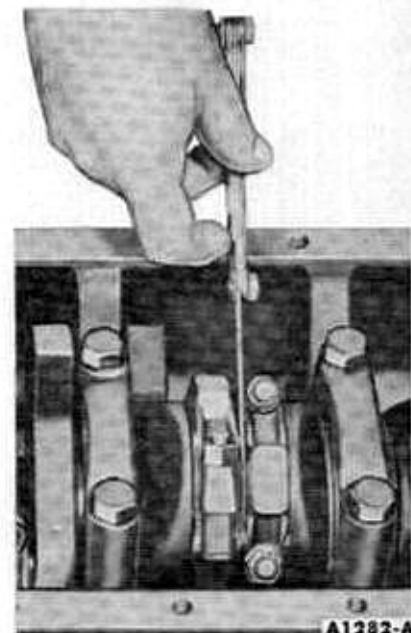

FIG. 41—Connecting Rod Side Clearance
10. After the piston and connecting rod assemblies have been installed, check the side clearance between the connecting rods on each crankshaft journal (Fig. 41).